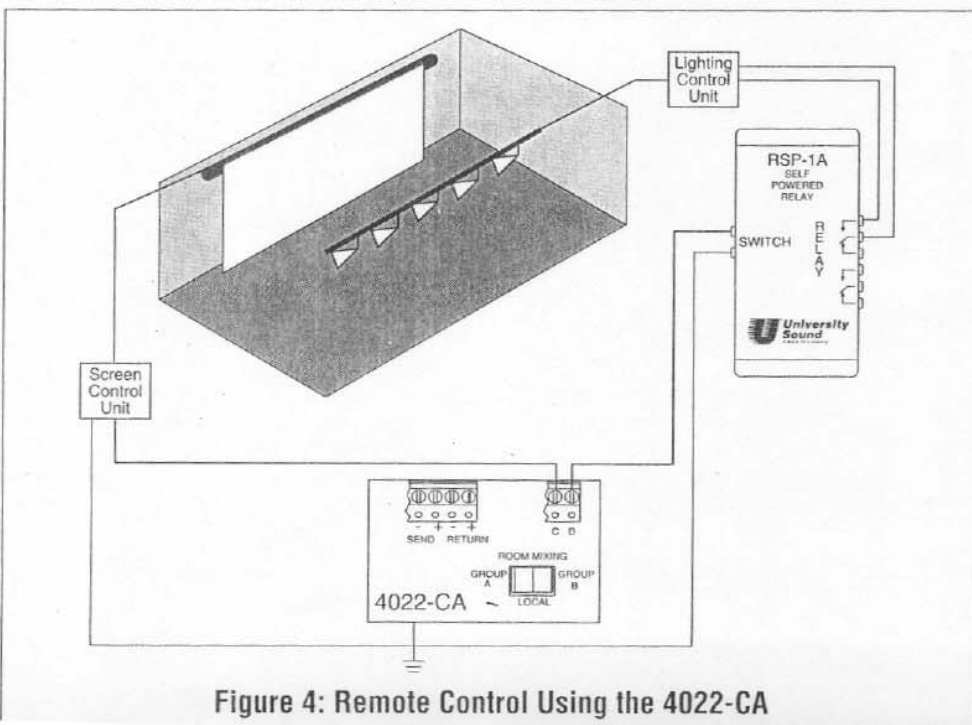

Figure 4: Remote Control Using the 4022-CA
Remote Control: Many presentation devices, such as motorized projection screens, are ideally controlled from a central area. Since the ROOM MIXING switch on the 4022-CA is only connected to the chassis ground, it can be used to control some of these devices either directly or indirectly through an intermediate power-switching relay. This sort of application is illustrated in Figure 4. Two cautions should be observed when using the switch in this way: (1) No electrical current should be passed through the switch; doing so can cause ground potentials, damage to the 4022-CA, or even electrical shock to the user. The University Sound RSP-1A uses a simple contact closure to ground, and is compatible with this type of application. (2) If hum or noise is present in the speaker output when this application is used, make certain that all connections to ground are connected to the same ground. If not, noise and hum-causing ground potentials and loops can be introduced into the system.
Smart distribution amp: Figure 4 shows how a 4042-CM can be used as a "smart" distribution amp. A simple switch bank allows remote selection of active outputs. Using a 4082-CM, up to eight outputs can be distributed.